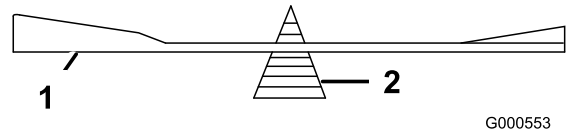

Figure 91
2. Check the balance of the blade by putting it on a blade balancer (Figure 91).